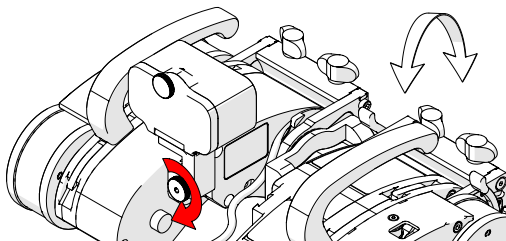

Fig. 15 - Tighten the preamp mounting bracket knob
3. Tighten the preamp's mounting bracket knob (Fig. 15).